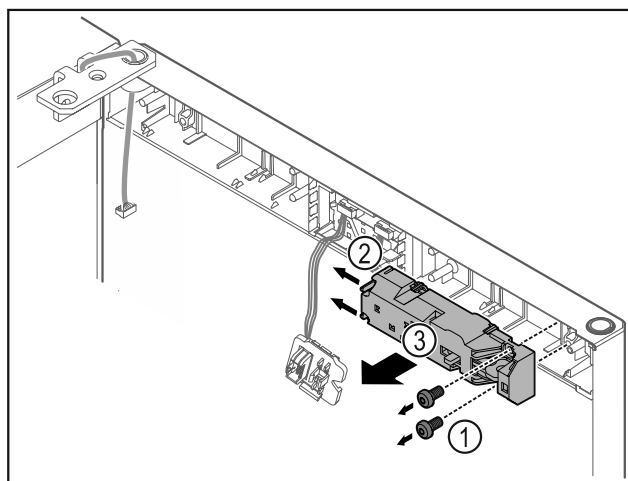

Fig. 10
- Remove the screws Fig. 10 (1).
- Press the latching lugs Fig. 10 (2) to the side and take off the remote lock Fig. 10 (3).